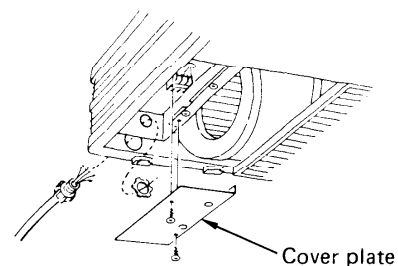

Fig. 15
- c) Unscrew the cover plate of the electrical component box. Fig. 15